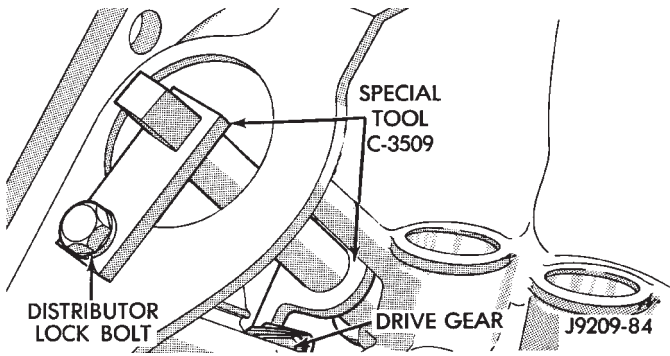

Fig. 29 Camshaft Holding Tool C-3509 (Installed Position)
(2) Install Camshaft Gear Installer Tool C-3509 with tongue back of distributor drive gear (Fig. 29).
(3) Hold tool in position with a distributor lock-plate bolt. This tool will restrict camshaft from being pushed in too far and prevent knocking out the welch plug in rear of cylinder block. **Tool should remain installed until the camshaft and crankshaft sprockets and timing chain have been installed.**
(4) Install camshaft thrust plate and chain oil tab. **Make sure tang enters lower right hole in**